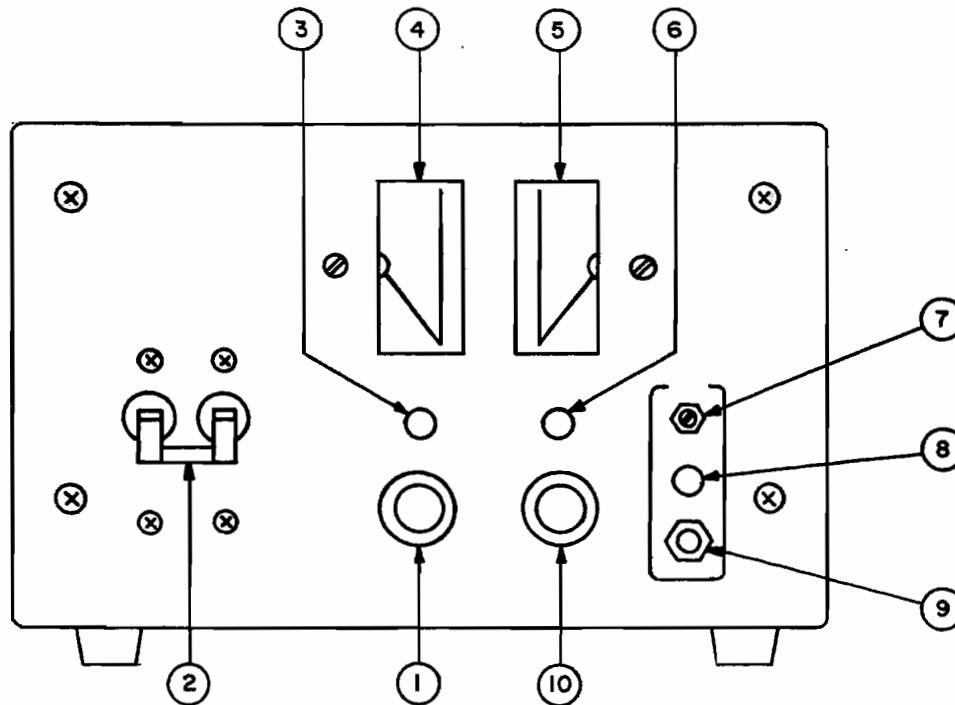

FIG. 2-2 CONTROL AND TERMINATIONS, ATE 1/2 RACK GROUP, FRONT.
- a) FRONT PANEL: Refer to FIG. 2-2 and Table 2-2.
2-9 A simple operating check after unpacking and before permanent installation is advisable to ascertain whether the power supply has suffered damage resulting from shipment. Refer to FIG. 2-2 and to FIG. 2-3 for the location of the operating controls and output terminals.